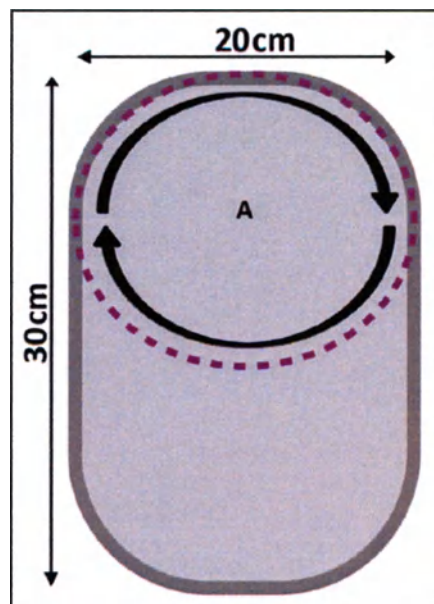

Figure 33: Segment A Treatment Illustration
- Treat segment **A** in a circular horizontal **Clock-Wise** manner (see Figure 33) in a gliding technique, until the skin surface at the treated segment reaches 43-45°C or the patient cannot tolerate the heat.